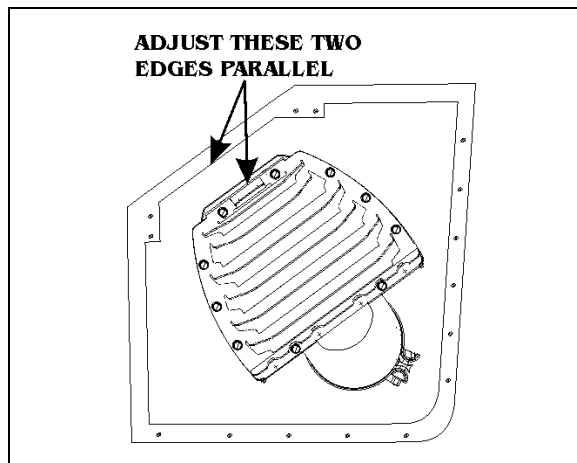

FIGURE 7: DIFFUSER POSITION ADJUSTMENT 04015_1
2. For proper angular position, make sure that the two edges shown on figure 7 are parallel with each other.